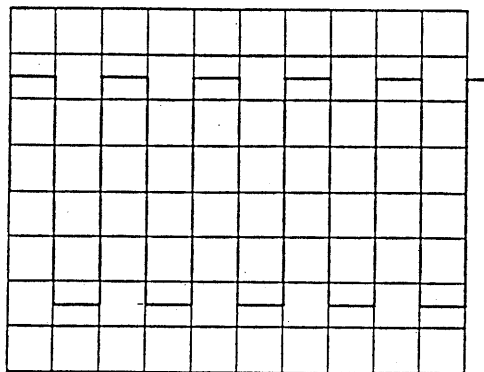

Figure 4-3
- 5) Set the AC-GND-DC switch in the AC state. A waveform as shown in Figure 4-3 will be displayed on the CRT screen.
When the calibration voltage signal is applied to the input terminals of both X and Y axis with the 10 : 1 Probes (supplied) and the corresponding VOLTS/DIV switches are properly adjusted, a Lissajous figure as shown in Figure 4-3 will be displayed.